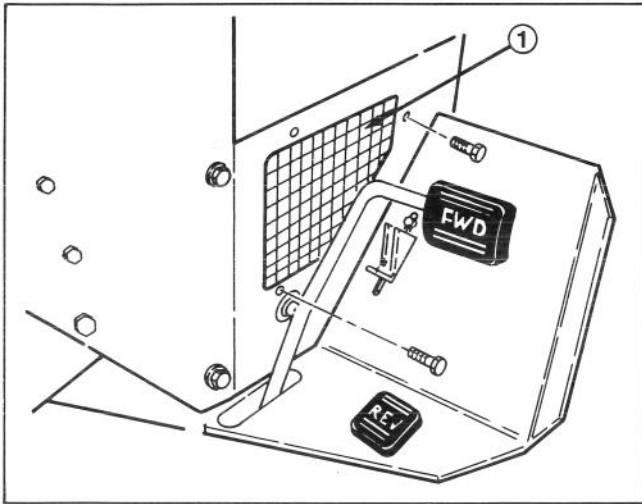

Figure 39
## ADJUSTING TRACTION PEDAL (Fig. 39 & 40)
1. Remove (3) self tapping screws securing support screen to hydraulic support panel (Fig. 39). Remove screen.